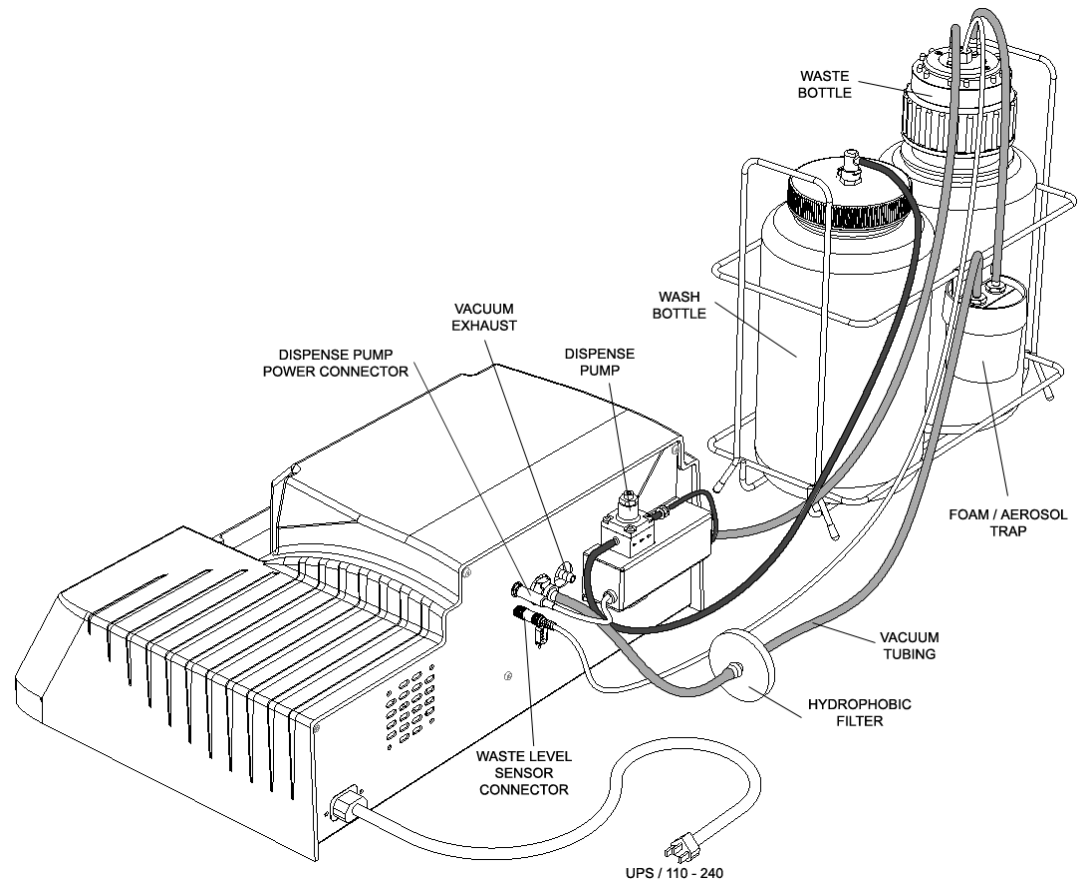

Figure 3. Rear View of the *Opsys MW™* System
Connectors at the rear of the *Opsys MW™* system are shown in Figure 3.
6. Connect the dispense pump power cable to the dispense pump power connector at the rear of the instrument (Figure 3).
1. Insert the Quick-Connect end of the vacuum tubing on the Foam/Aerosol Trap to the Quick-Connect vacuum connector at the rear of the instrument (Figure 3).
5. Connect the waste level sensor cable to the waste level sensor connector at the rear of the instrument (Figure 3).